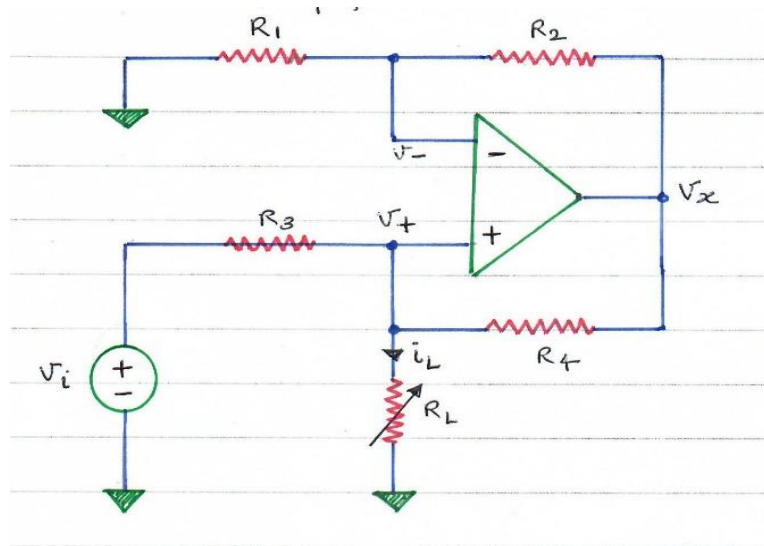

Figure 2: Transconductance Amplifier
1. Hook up the circuit as shown in Fig. 2 on breadboard.